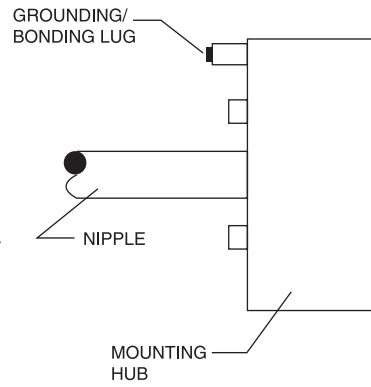

Figure 2
- e. The mounting bracket (not shown) and mounting hub must be properly electrically bonded and grounded via the No. 8 AWG ground connector located at the upper left mounting bolt positioned, see Figure 2.